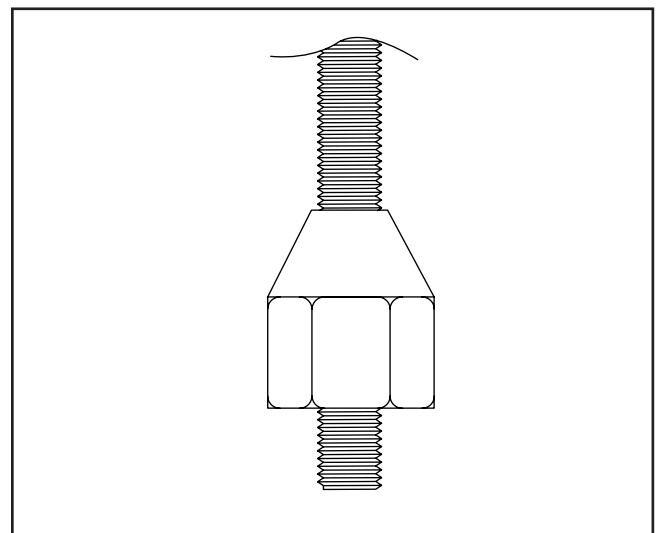

Figure 9. Drawbar nut on spindle.
4. Thread the drawbar nut, tapered side up, onto the bottom of the drawbar, as illustrated in **Figure 9**.